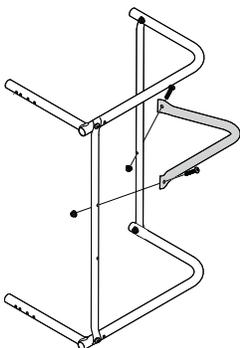

Figure 6
- Attach bag vent mount tube to right frame assembly, using two pan head screws and two hex nuts as shown in Figure 6.